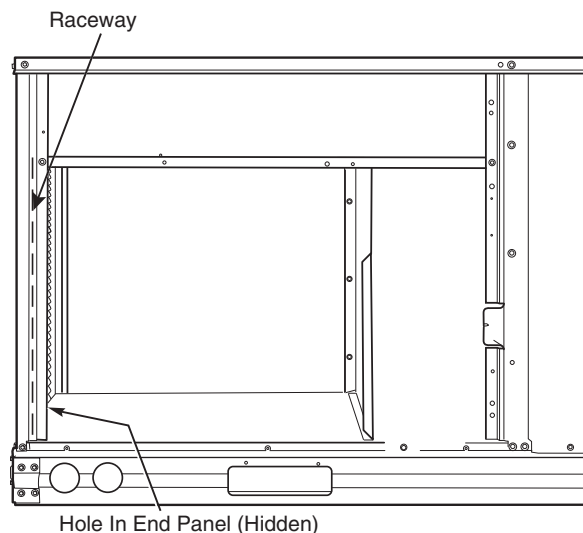

Fig. 43 — Field Control Wiring Raceway
Pass the thermostat control wires through the hole provided in the corner post; then feed the wires through the raceway built into the corner post to the control box. Pull the wires over to the terminal strip on the lower-left corner of the SystemVu MMB. See Fig. 43.
2. Feed wires through the raceway built into the corner post (see Fig. 43) to the 24v barrier located on the left side of the control box. The raceway provides the UL-required clearance between high-voltage and low-voltage wiring.